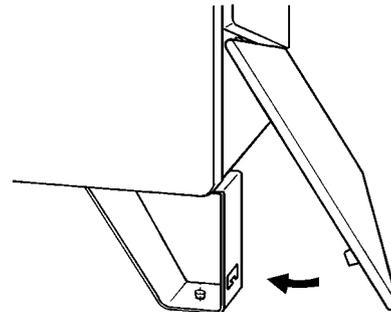

fig. 24
- Place the top clips of the plinth into the holes as shown in fig. 24.